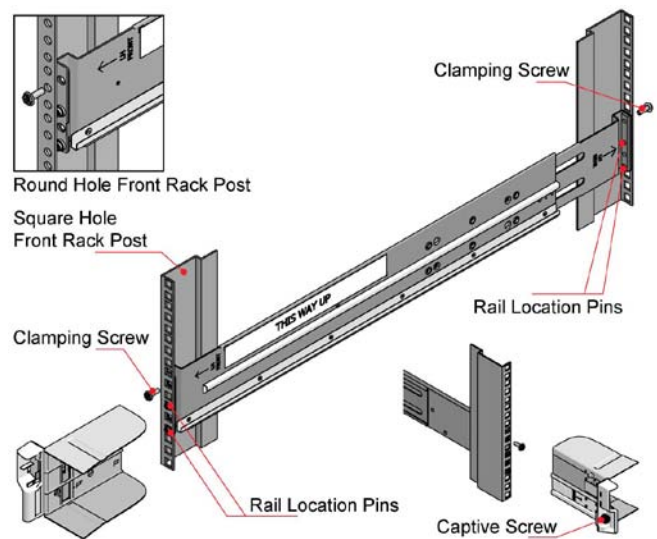

Figure 2 - Rack Installation
3. Locate the rail location pins inside the front of the rack and extend the rails to enable the rear location pins to engage. Ensure the pins are fully located in the holes in the rack posts (see Figure 2).
4. Install the front and rear clamping screws (see Figure 2). The screws should be left loose enough to allow the rail to move sideways on its slots.
6. Withdraw the enclosure approximately 200mm and fully tighten the front and rear clamping screws (see Figure 2).
7. Fasten the front of the enclosure using the two captive screws as shown in Figure 2.